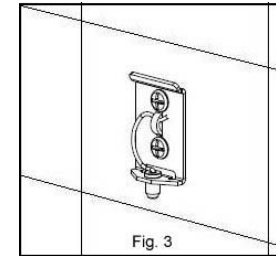

Fig. 3
the “Center-Line” on the template is level on the wall. Place the Quick-Mount design mounting plate(s), Fig. 3, vertically at the corresponding location(s) along the Center-Line on the template, with the upper & lower screw holes evenly distributed above & below the Center-Line and with the spring-pin on the lower side. Then, mark the screw locations along the vertical line on the template, through the upper & lower holes at the mounting plate.
3. Push the plastic anchors provided into the holes until flush with the wall. Then, screw the mounting plates to the wall with the screws provided, Fig. 3. Do not over-tighten the screws.